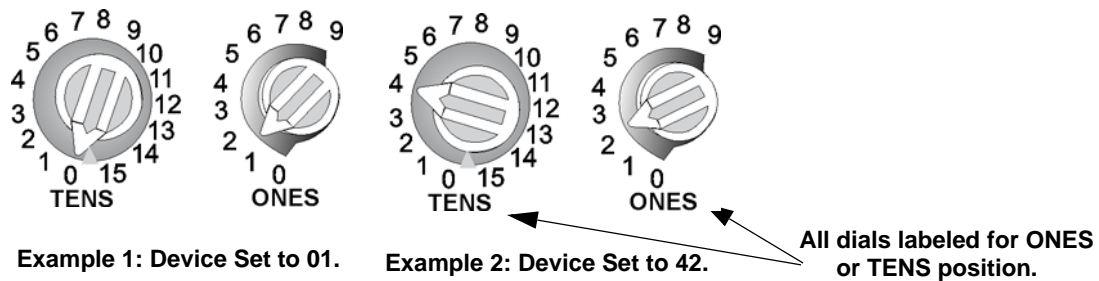

Figure 7.69 SK SLC Device Addressing Using Rotary Dials
**Example 1:** To select device address 1, turn the *ONES* rotary dial to **1** and the *TENS* rotary dial to **0** as shown in Figure 7.69.
**Example 2:** To select device address 42, turn the *ONES* rotary dial to **2** and the *TENS* rotary dial to **4** as show in Figure 7.69.